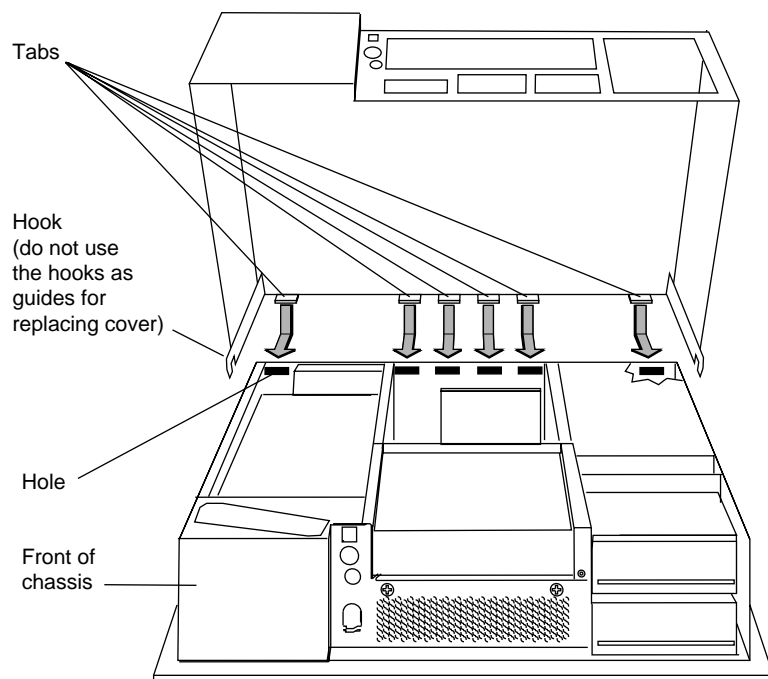

Figure 4-17 Looking Through the Holes to Place the Tabs
1. Locate the tabs on the inside and back of the top cover and the holes on the back of the workstation. See Figure 4-17.